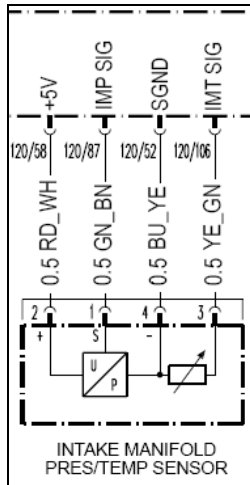

Figure 7 – EPA07 Intake Manifold Pressure/Temperature Sensor Schematic
2. Disconnect the Intake Manifold Pressure/Temperature Sensor. See Figure 7.